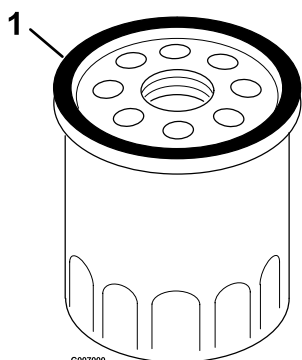

Figure 26
7. Use your finger to coat the gasket on the new filter with clean Exmark 4-Cycle Premium Engine oil (see Figure 26).